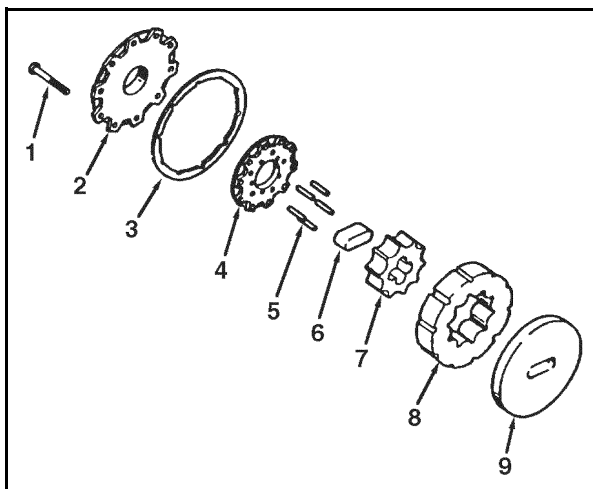

Figure 6C-3. Metering Package Disassembly
12. Remove the face seal (20), backup ring (21), and seal spacer (22), see Figure 6C-2.
13. Remove the thrust bearing (19) and spacer (18), see Figure 6C-2.
14. Remove the upper cover plate (23) and retaining ring (24), see Figure 6C-2.